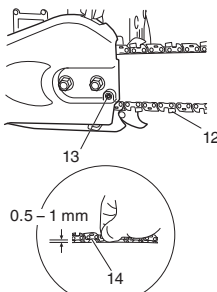

Fig. 6
7. Raise the bar end, and tighten the chain (12) by turning the tension adjustment bolt (13) clockwise. To check proper tension, lightly lift up the center of chain and there should be about 0.5 – 1.0 mm clearance (14) between bar and edge of drive link. (Fig. 6, 7)